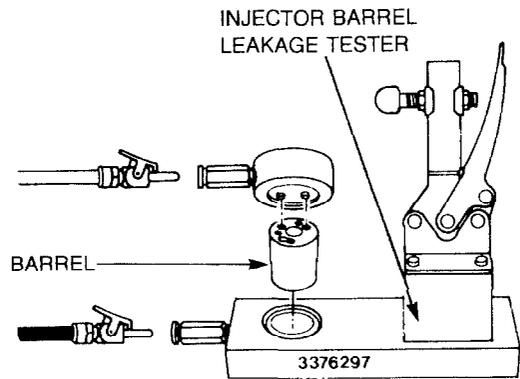

Figure 85 — Barrel and Test Fixture
- m. Using clean calibration fluid 3375364 lubricate the barrel check ball and seat, then install the barrel into the test fixture with the check ball uppermost (see Fig. 85). Align the dowel pins on the adapter with the holes in the barrel, then clamp the barrel into the tester.